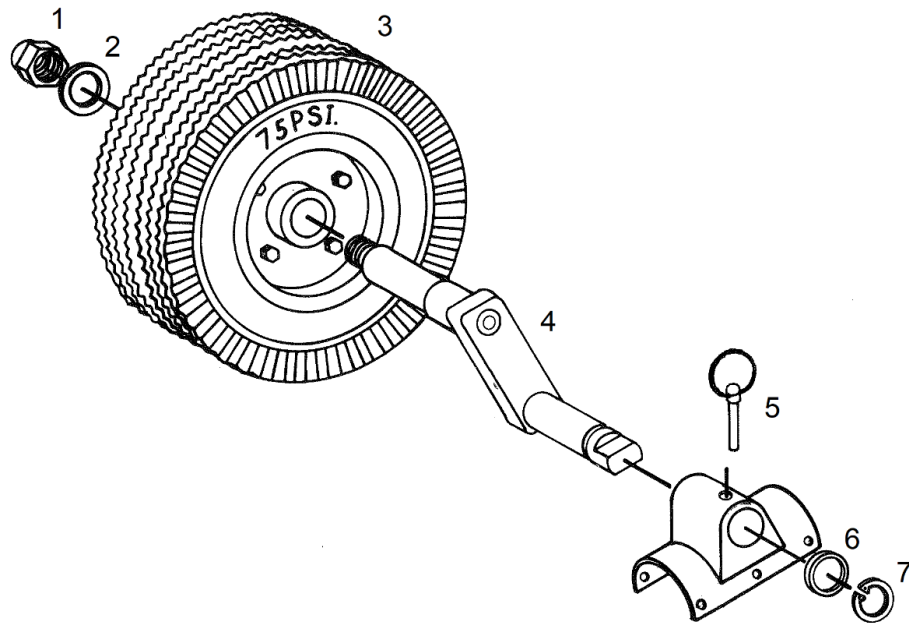

Figure 8-8.1 Cross Tube Weldment Clamp Cracks
- 1 Visually inspect attachment clamps for elongated bolt holes, cracked weldments, corrosion, and security of hardware. Refer to Figure 8-8.1 for an example of weldment cracks.